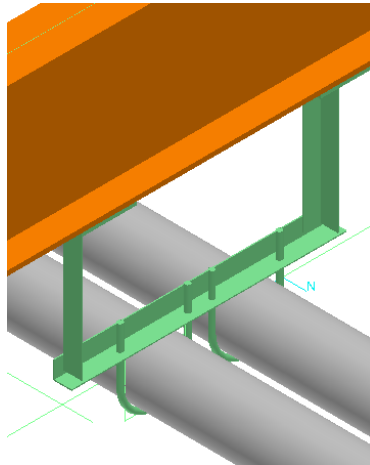

Figure 8: Output: Pasted Support
**Exercise Objective:** In this exercise you will be copying and pasting the **U-bolt** in the designed support of the previous exercise to the adjacent Straight pipe, *as shown in Figure 8*.